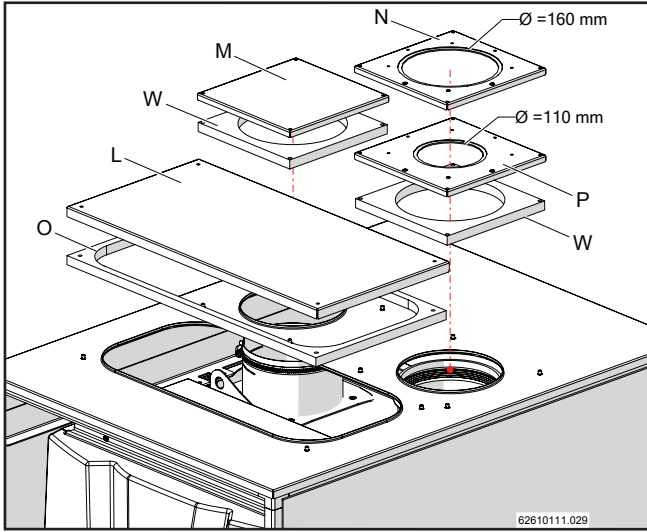

Figure 15-65
- 16.- Attach the shelter for the electrical connections "L", for the intake "M" and for the outlet "N" (or "P") to the top cover using screws "D" (figures 15-65 and 15-66); remembering to insert gaskets "O" and "W" as shown in figure 15-65.
- If you have a flue gas outlet 160 mm in diameter, use outlet cover "N" in figure 15-65.
- If you have a flue gas outlet 110 mm in diameter, use outlet cover "P" in figure 15-65.